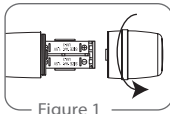
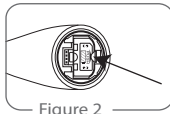

Figure 1
Figure 2
Connect one end of the Audio cable to the AF output socket in the rear panel of the receiver and plug another end to the "MIC IN" input socket of a mixer or amplifier. (Step 1 of Figure 1)
Connect one end of AC/DC adaptor cable to DC input socket in the rear panel of the receiver, and plug another end into an AC outlet. (Step 2 of Figure 1)
1. Turn the microphone ball grille counter-clockwise (Figure 1), press both release knobs to remove the battery tray from the mic. housing (Figure 2).